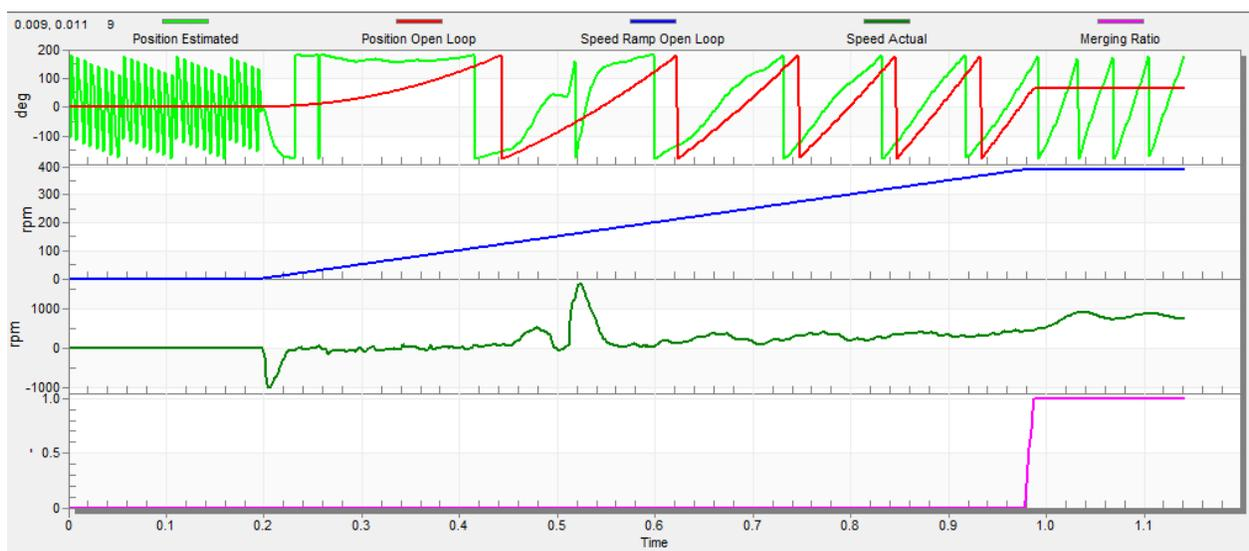

Figure 47. Motor startup
1. The start-up process can be tuned by a set of parameters located in the “Sensorless” tab. Two of them (ramp increment and current) are accessible in both tuning modes. The start-up tuning can be processed in all control modes besides the scalar control. Setting the optimal values results in a proper motor startup. An example start-up state of low-dynamic drives (fans, pumps) is shown in Figure 47.